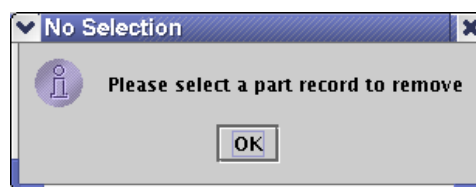

Figure 5-22. No Selection Dialog Box
5.4.1.6 Remove Part. The **Remove Part** button allows the operator to remove a part from the Parts Replaced list. The operator should select a part before pressing the **Remove Part** button. If the operator does not select a part before pressing the **Remove Part** button, the No Selection dialog box (Figure 5-22) appears and notifies the operator of the error. To correct this error, the operator first needs to select **OK** on the error window, select a part from the repaired parts list, and reselect the **Remove Part** button.